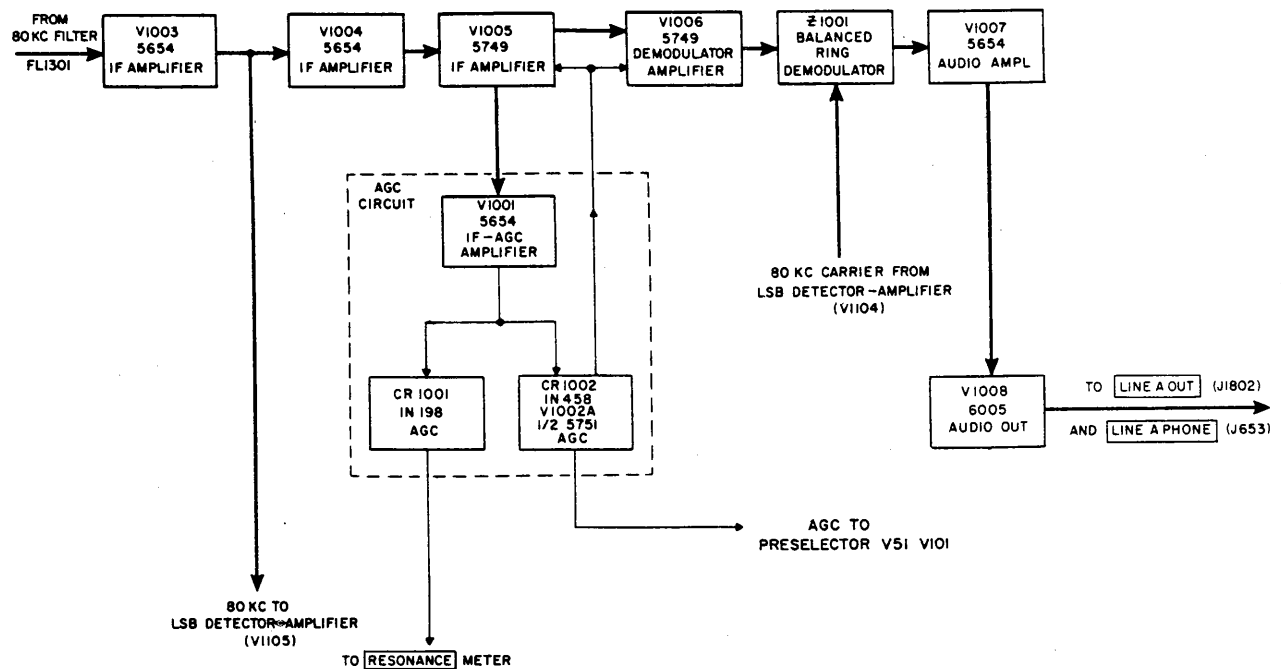

Figure 4-26. Upper-Sideband Detector-Amplifier, Block Diagram
(See figure 4-26.)
a. GENERAL.—Two detector-amplifiers comprise the single-sideband portion of the receiver, making possible either upper- or lower-sideband reception, or both simultaneously. This paragraph discusses operational theory of the upper sideband. Figure 4-26 is a related